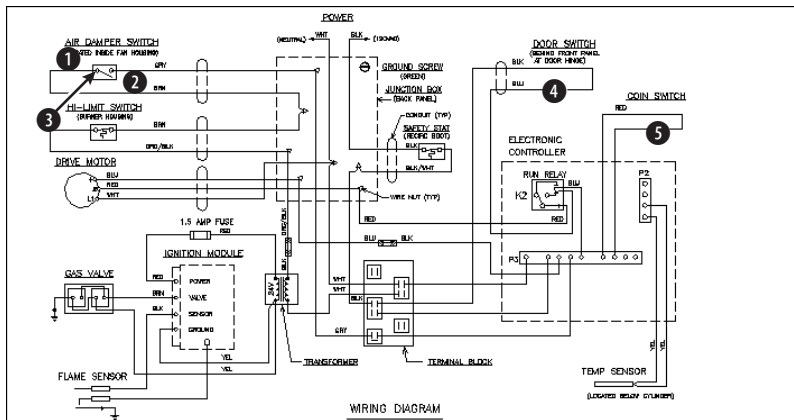

Figure 10-47: A wiring diagram
2. Save the file as ab10-14.dwg in your AutoCAD Bible folder. This is a wiring diagram, as shown in Figure 10-47. Set ORTHO and OSNAP on. Set an endpoint running object snap.
4. At the **Select objects:** prompt, use a window to select the AIR DAMPER SWITCH, picking at ① and ② in Figure 10-47. Press Enter to end object selection. AutoCAD returns you to the Object Grouping dialog box. Click OK.